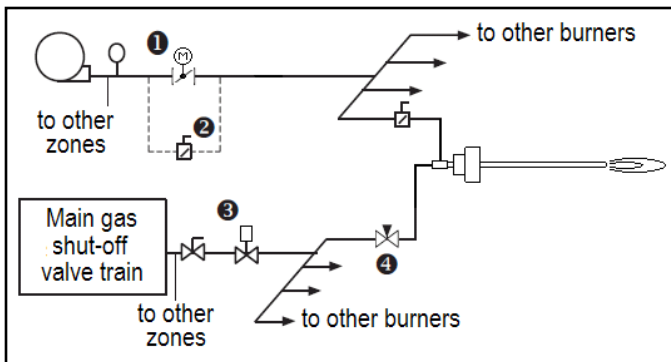

Figure 3.1. ON/OFF Gas Control. Constant Air
The system controls the temperature in cycles, simultaneously opening and closing the general gas solenoid valve ③ within each cycle in conjunction with the requirements. All burners are set by manual balancing valves ④. See Figure 3.1.